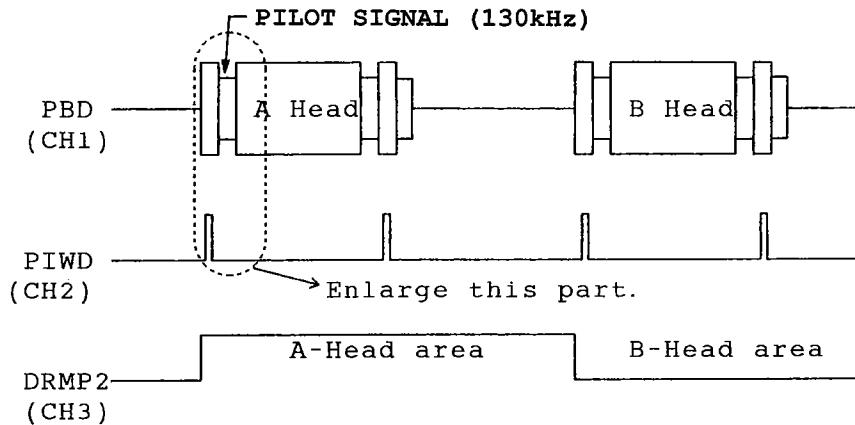

Fig. 15
2. Adjust VR601 so that the rising edge of signal PIWD stops at the point where 130KHz Pilot signal start. (See Fig. 15 and 16)
You use oscilloscope without delay, make rough adjustment as shown in the Fig. 15.